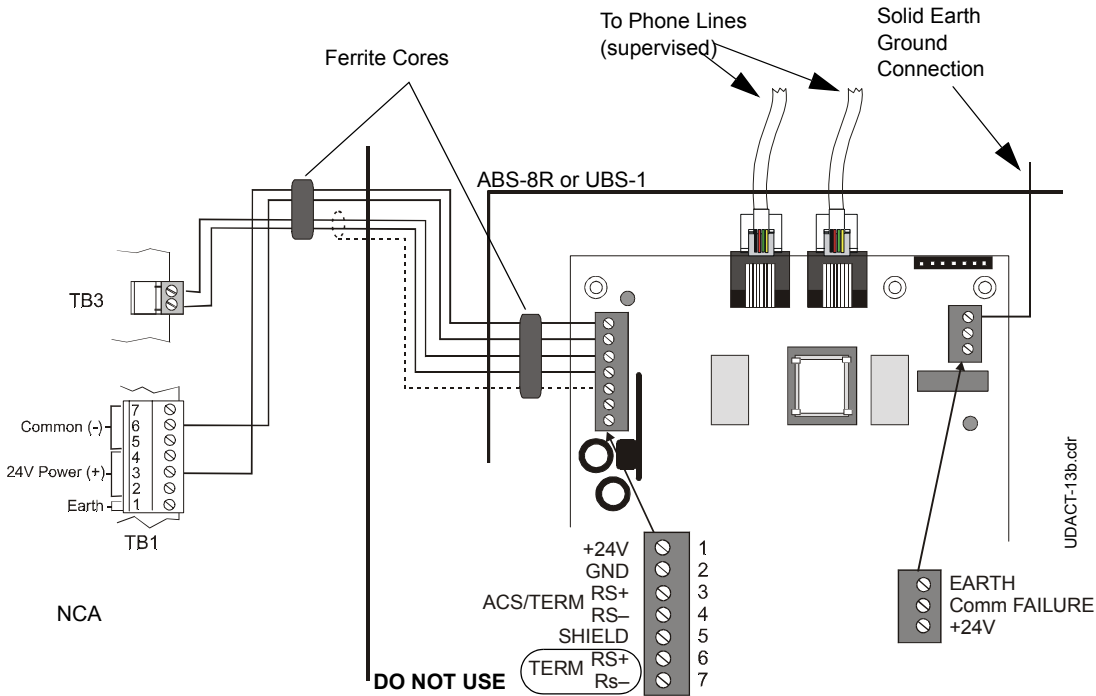
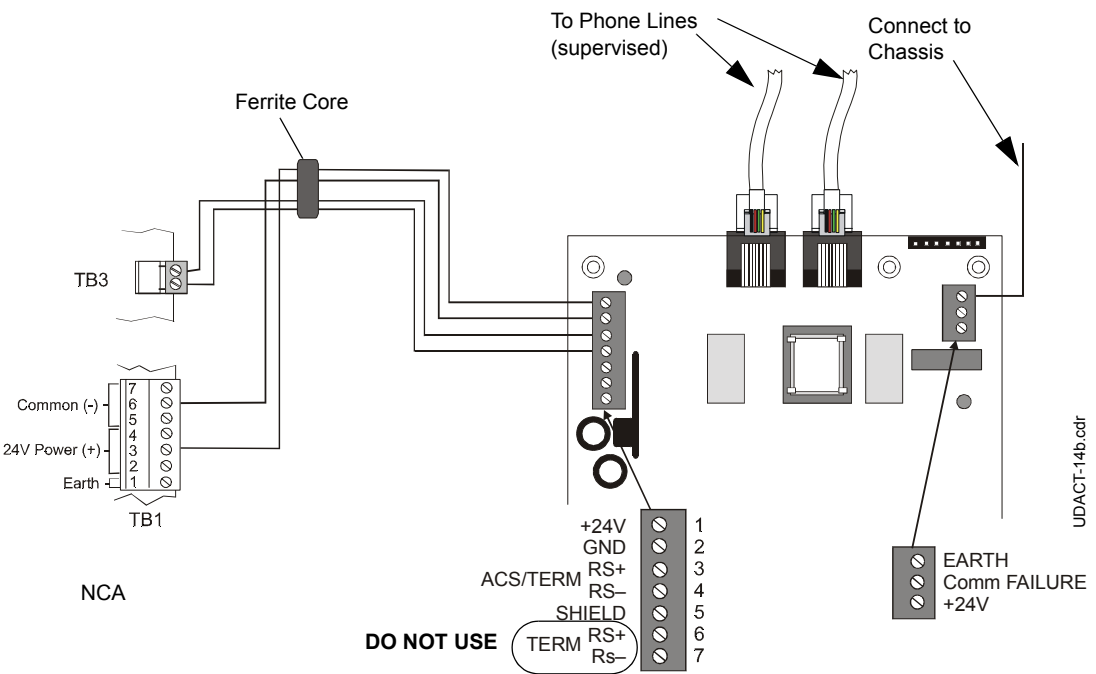

Figure 27 UDACT and NCA in Separate Cabinets
Figure 28 UDACT and NCA in the Same Cabinet
Refer to Figure 27 and Figure 28 on page 108.
4. Recommended wire is 12 AWG (3.25mm²) to 18 AWG (0.75mm²), twisted pair, shielded cable. Connect only one end of shield: a) shield may be connected to cabinet (earth ground) at fire alarm panel, or b) shield may be connected to TB1 Terminal 5 (Shield) at UDACT as shown in Figure 27.